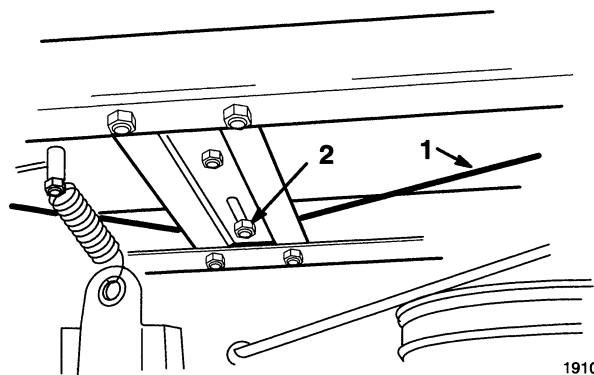

Figure 11
2. Check the cable tension. Cable should be taught and have 1/2 inch movement with slight pressure applied (Fig. 11).
4. To adjust the cable tension loosen the front cable guide, located on tractor brace above deck pulley. Slide guide sideways as required for proper tension (Fig. 11).